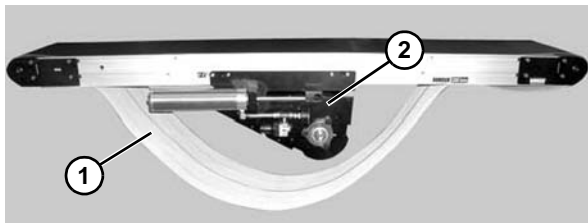

Figure 57
16. Remove belt (Figure 57, item 1) from center drive module (Figure 57, item 2).